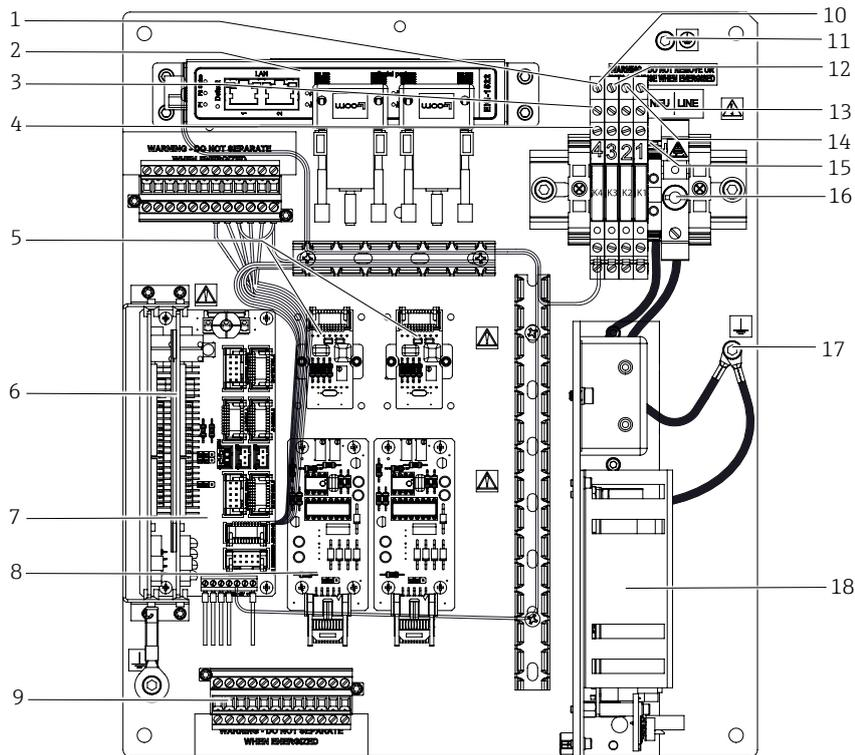

Figure 5: Analyzer B e-series electronics control board (2 channels, AC) showing signal terminal block and alarm relays with Ethernet communication
2. Open the electronics enclosure. Refer to Figures 5–8 for relay locations.